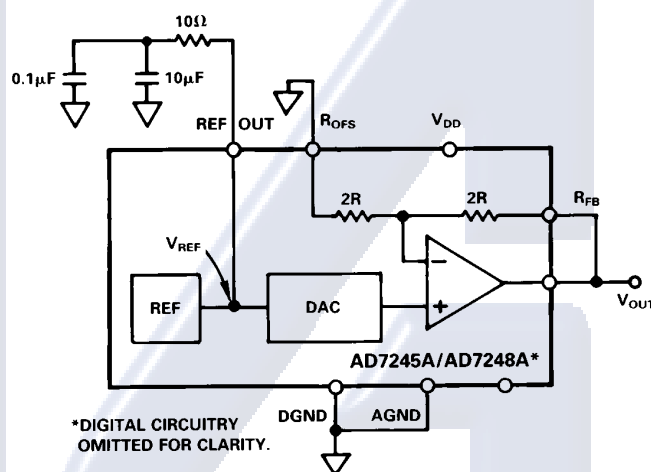

Figure 8. Unipolar (0 to +10 V) Configuration
*REFERENCE DECOUPLING COMPONENTS AS PER FIGURE 8
The first of the configurations provides an output voltage range of 0 V to +10 V. This is achieved by connecting the bipolar off-set resistor, R_{OFS} , to AGND and connecting R_{FB} to V_{OUT} . In this configuration the AD7245A/AD7248A can be operated single supply ($V_{SS} = 0 \text{ V} = \text{AGND}$). If dual supply performance is required, a V_{SS} of -12 V to -15 V should be applied. Figure 8 shows the connection diagram for unipolar operation while the table for output voltage versus the digital code in the DAC latch is shown in Table III.